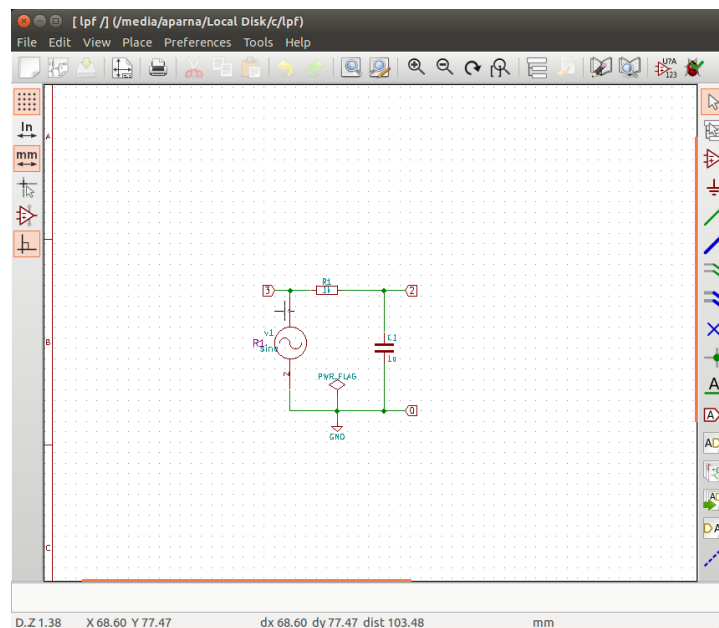

Figure 12.1: Circuit schematic: Low pass filter
1. Open the schematic and create the circuit as shown in Fig. 12.1.